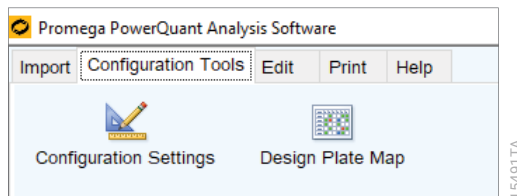

Figure 57. The 'Configuration Tools' tab.
The 'Configuration Tools' tab provides access to the 'PowerQuant Administrative Tools' window and the 'Promega PowerQuant Plate Designer' window (Figure 57).
1. Select the 'Configuration Tools' tab from the main menu and select the **Configuration Settings** icon (Figure 57).
Before data analysis, settings for analysis and reporting must be defined. These settings include: default units for DNA concentration; well-naming convention; calibrator assessment (for use with virtual standard curves); selection of worksheets to omit from the final report; definitions for the PowerQuant® System dye names; standard curve assessment settings; sample assessment settings; and normalization settings for STR analysis. The Admin user defines these parameters in the 'PowerQuant Administrative Tools' window, accessed by opening the Configuration Settings in the 'Configuration Tools' tab (Figure 57).
1. Select the 'Configuration Tools' tab in the main menu and press the **Configuration Settings** icon (Figure 57). The 'PowerQuant Administrative Tools' window opens along with the 'Administrator Login' window.